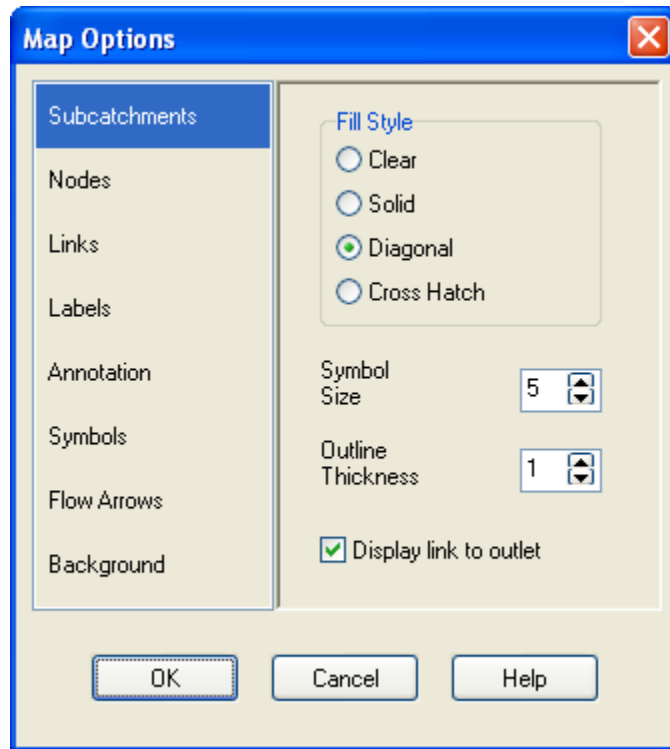

Figure 2-3. Map Options dialog.
1. Select **View >> Map Options** to bring up the Map Options dialog (see Figure 2-3).